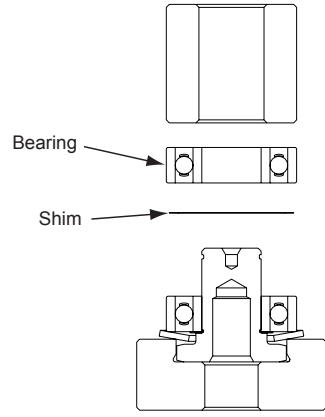

Figure 3
3. Place the Shim over the Spindle shaft and onto the face of the Bearing making sure it is on center. Press the (no seals/shields) Bearing down using the T-5A Spindle Bearing Pressing Tool Top, being careful to make sure the Shim is still centered on the vertical axis of the Spindle shaft and Bearing. See Figure 3. NOTE: When the Spindle Assembly is done correctly, the Bearings will rotate freely but not loosely and the Shim can be moved but will not slide or move by gravity.